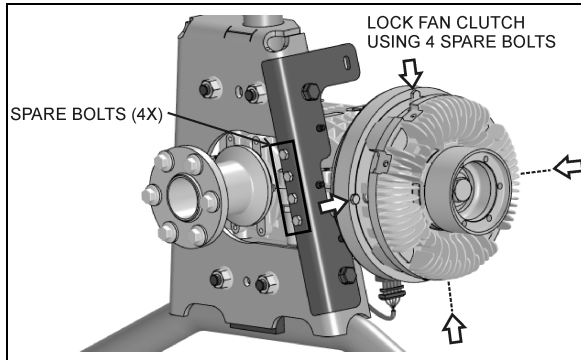

FIGURE 24: MECHANICAL LOCKING
3. Unscrew and remove the 4 spare M6x12 hex bolts screwed to the angle on the fan gearbox mounting support (FIGURE 24).